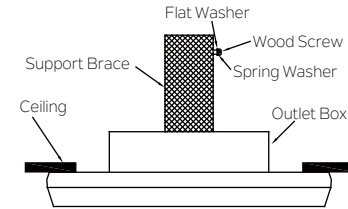

Fig. 11
**Step 1.** Drive a wood screw and washers into the side of the brace that holds the outlet box. Leave 3mm (1/8") of space between the support brace and the washer. (Fig. 11)